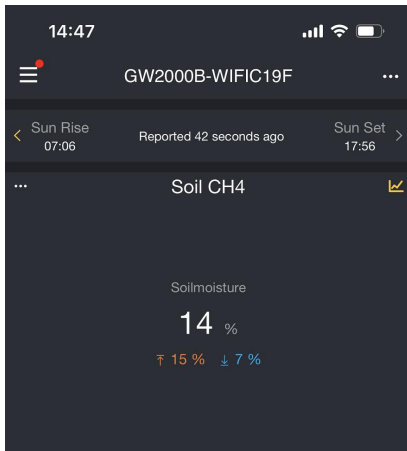

Figure 6
1. Open the Ecowitt app, Click 'My Device' and click your gateway, and find your old sensor ID, for example your WH51L's sensor ID is on Soil CH 4, like the Figure 6.